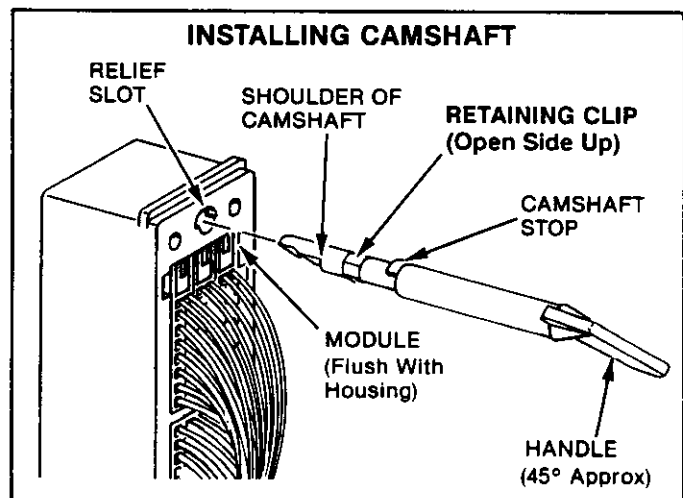

Fig. 3
3. Turn the retaining clip on the camshaft so that the open side of the clip is aligned with the camshaft slot. Align the camshaft with the back of the camshaft hole at the top of the plug housing. Notice that the camshaft handle is angled approximately 45° to ensure alignment of the camshaft stop with the relief slot in the housing. See Figure 3.